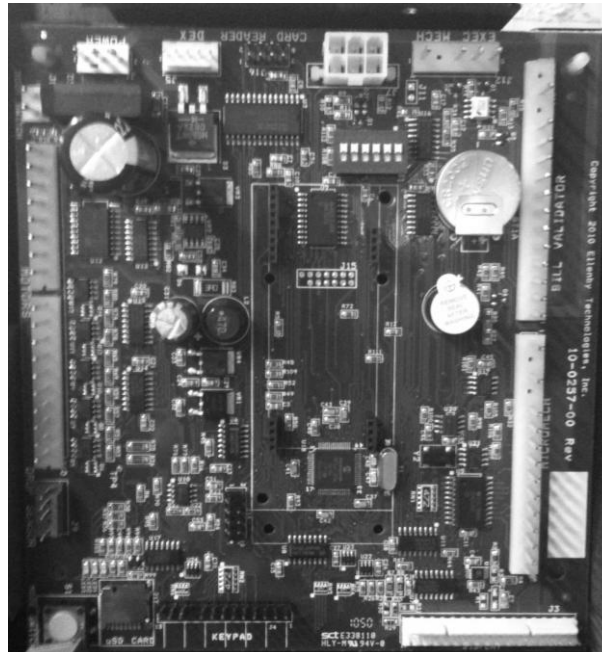

Figure 5.
5. Now, you may install the LCM Retrofit Controller, 10-0257-00, shown below in Figure 5. The same mounting standoffs will be used. Orient the LCM Retrofit controller so that the POWER, DEX, and MDB headers will be towards the top of the vending machine. Match the mounting holes from the controller to the four standoffs and push the board so that each standoff locks it into place.